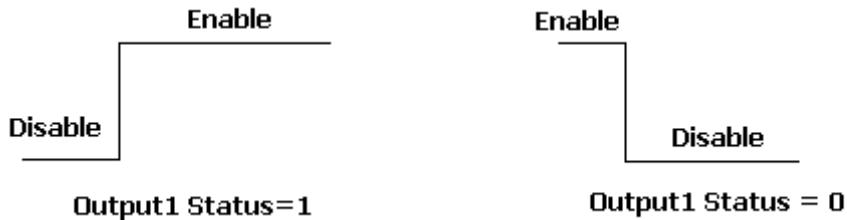
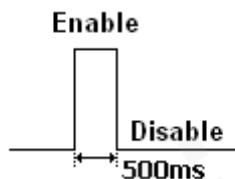
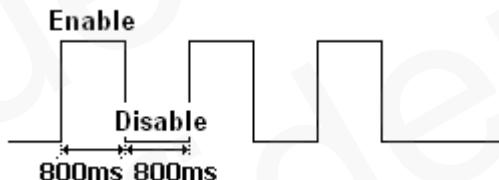

Figure 2: Wave Shape 1
Figure 3: Wave Shape 2
Figure 4: Wave Shape 3
- ✧ <Output1 Status>: Valid only for the wave shape 1 as shown in **Figure 2**, it configures the final status of the output port.
- ✧ <Duration>: Please refer to **Figure 2**, **Figure 3** and **Figure 4**. Unit: 100ms.
- ✧ <Toggle Times>: Please refer to **Figure 2**, **Figure 3** and **Figure 4**.